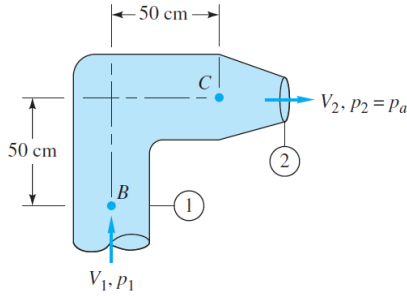

Fig. 3.23
3.23 The pipe bend of Fig. 3.23 has $D_1 = 27$ cm and $D_2 = 13$ cm. When water at 20°C flows through the pipe at 1 m³/min, $p_1 = 194$ kPa (gage). Compute the torque required at point B to hold the bend stationary.